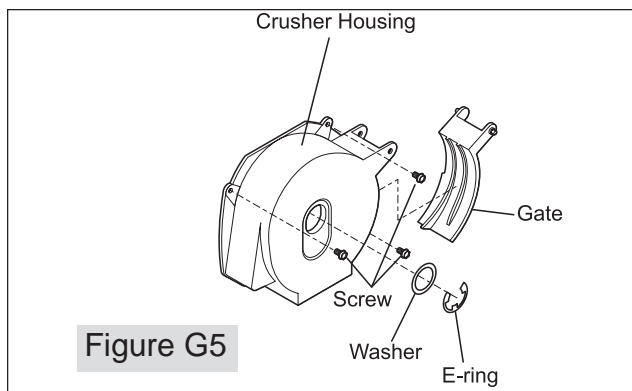

Figure G5
1. Remove four (4) screws holding Ice Container Front to Ice Container.
2. Remove two (2) screws on underside of Ice Container, holding Crusher Housing to container.
4. Remove three (3) Hex head screws holding Crusher Housing to Front Plate. (See Figure G5)
5. Remove E-ring and washer on front of Crusher Housing. (See Figure G5)